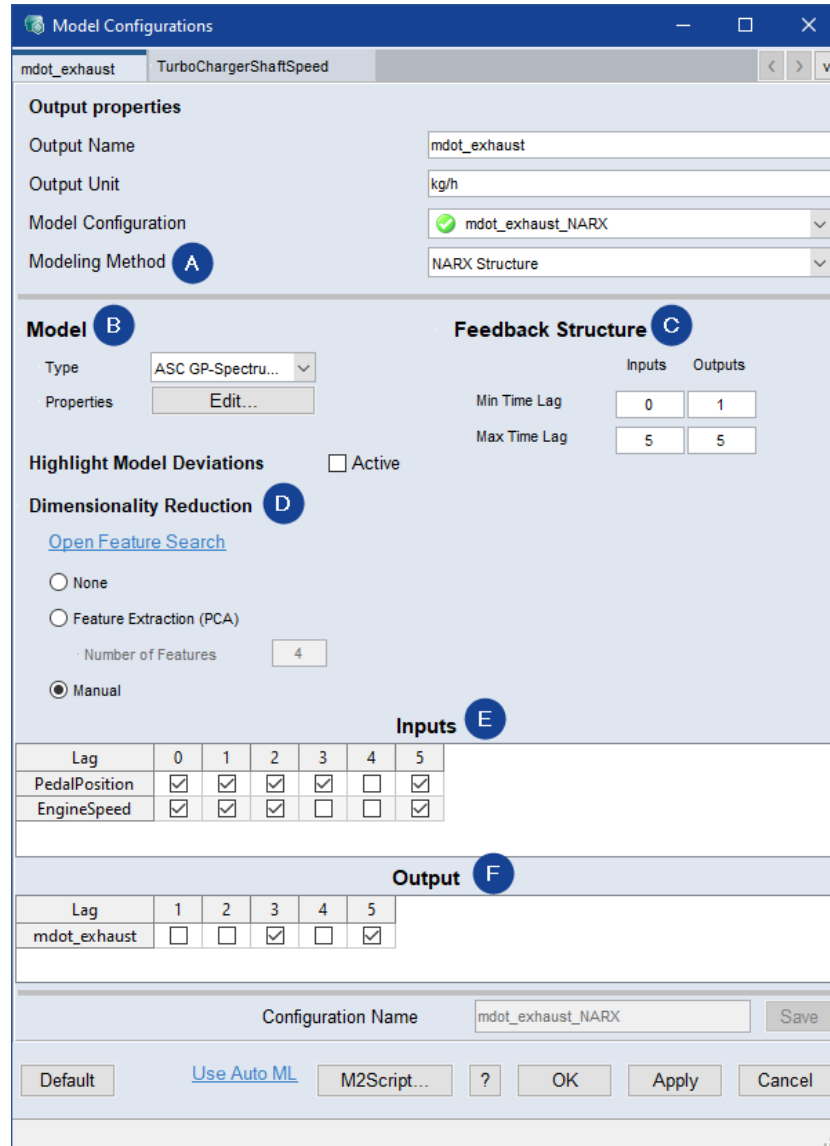

Fig. 6-6: "Model Configurations" window
2. In the "Modeling Method" combo box ((**A**) in Fig. 6-6: above), select NARX Structure.
3. In the "Model" area ((**B**) in Fig. 6-6: above), do the following:
4. In the "Feedback Structure" area ((C) in Fig. 6-6: on the previous page), enter the minimum and maximum time lags for inputs and outputs.
5. In the "Dimensionality Reduction" area ((D) in Fig. 6-6: on the previous page), activate **None**.
This window contains the same elements as the "Model Configurations" window (Fig. 6-6: on page 38), except that there is only one tab for all outputs.
Several options are available in the "Model properties" window (Fig. 6-6: on page 38).
- **Manual:** Manual feature selection allows the user the explicit selection of the feature set by activating the corresponding options in the "Inputs" and "Output" table ((**E**) and (**F**) in Fig. 6-6: on page 38).
1. In the "Dimensionality Reduction" area of the "Model Properties" window ((**D**) in Fig. 6-6: on page 38), activate **Automatic Feature Selection**.